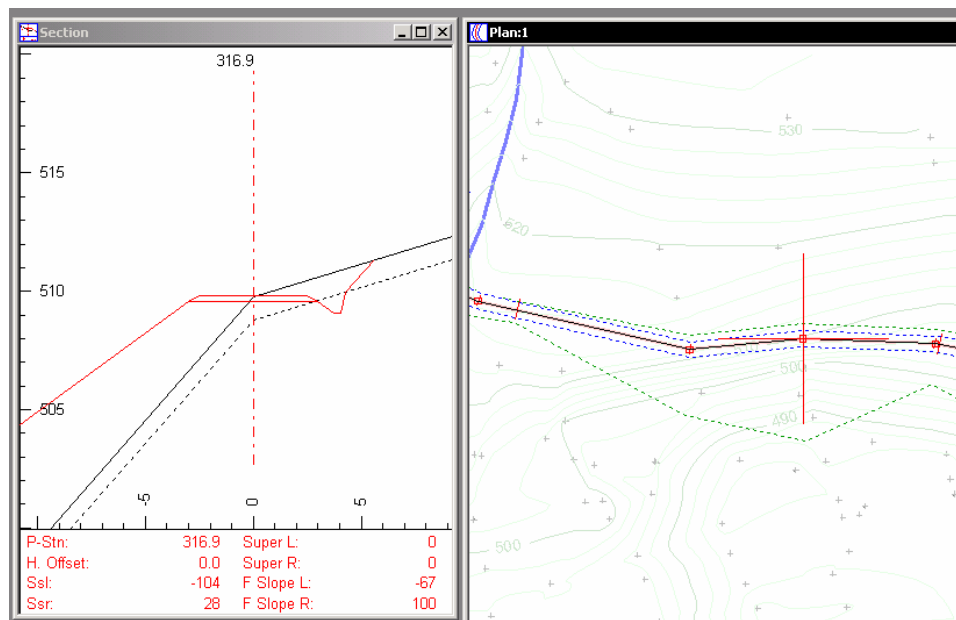

Figure 5.0: Excessive Fill Before Horizontal Alignment
This design contains vertical alignment. The horizontal alignment, however, is still coincident with the P-Line survey. This lies on the edge of an escarpment and the road would be better located uphill from the edge (Figure 5.0).
3. Capture the point indicated in Figure 5.0 and move it up before re-anchoring it. You may work in the Plan window or the Section window (see the *Getting Started* chapter for information on point editing).